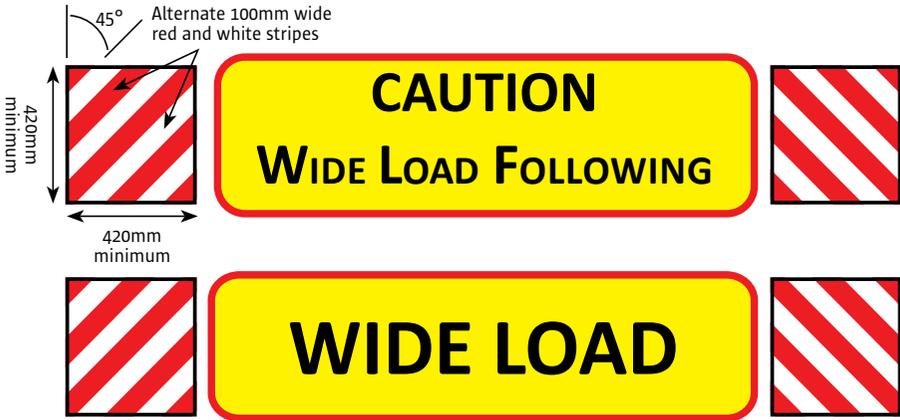

Figure 20: Wide Load Signage to be used when transporting self-propelled equipment over 3.5 metres wide on public roads.
- Chevron signalling panels satisfying set requirements must be fitted to each end of the ‘CAUTION — WIDE LOAD FOLLOWING’ sign. The **dimensional requirements** are shown in Figure 20 on page 49, and the **colouring and photometric** (reflective properties) **requirements** are set out in Appendix 3 to Annex XII to Commission Regulation 2015/208.